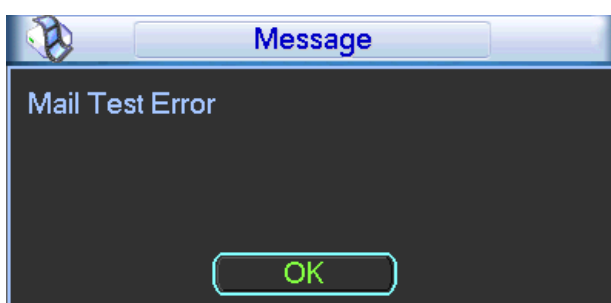

Figure 5-48
- Interval: Please check the above box to enable this function and then set the corresponding interval. System can send out the email regularly as you set here. Click the Test button, you can see the corresponding dialogue box to see the email connection is OK or not. See Figure 5-48.